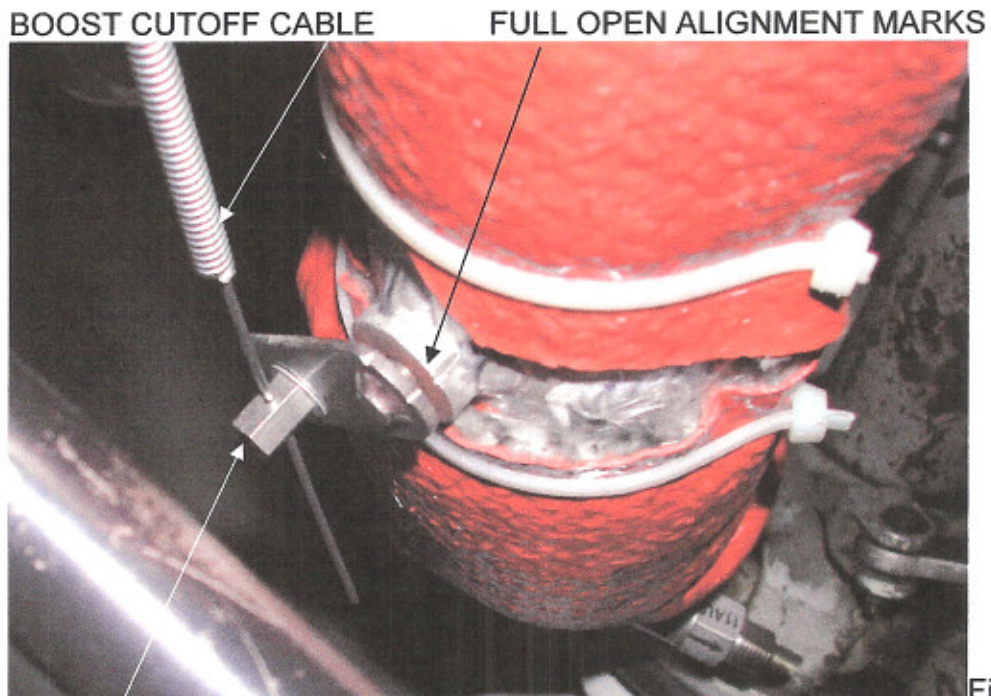

Figure 3
3. After making sure that the Boost Cutoff control is in the full forward position, align the marks on the valve shaft and the shaft housing and tighten the attachment bolt on the cable. The valve lever will have moved downward and be approximately 45° to the supercharger duct. The butterfly valve will be in the full open position (figure 3).